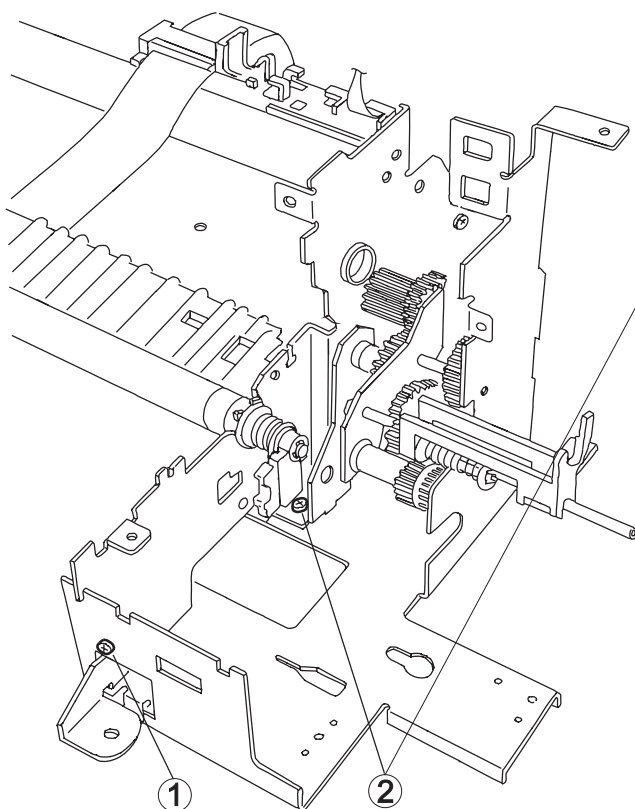

Figure 3-60. Order for Mounting Screws
5. Slide the I/S frame forward by releasing 3 joints (2 at the back and 1 on the front of the printer mechanism) for the I/S frame and right frame. Then remove the I/S frame by lowering downward. (See Figure 3-60.)